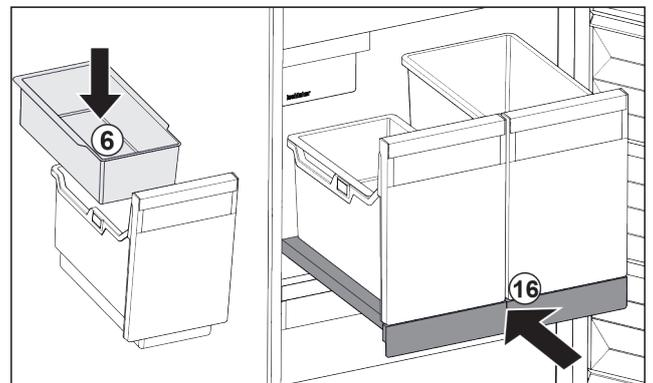

Fig. 30
- ▶ Insert hang-on tray *Fig. 30 (6)* for ice cubes.
- ▶ Slide in the pull-out board with (IceTower) container. *Fig. 30 (16)*